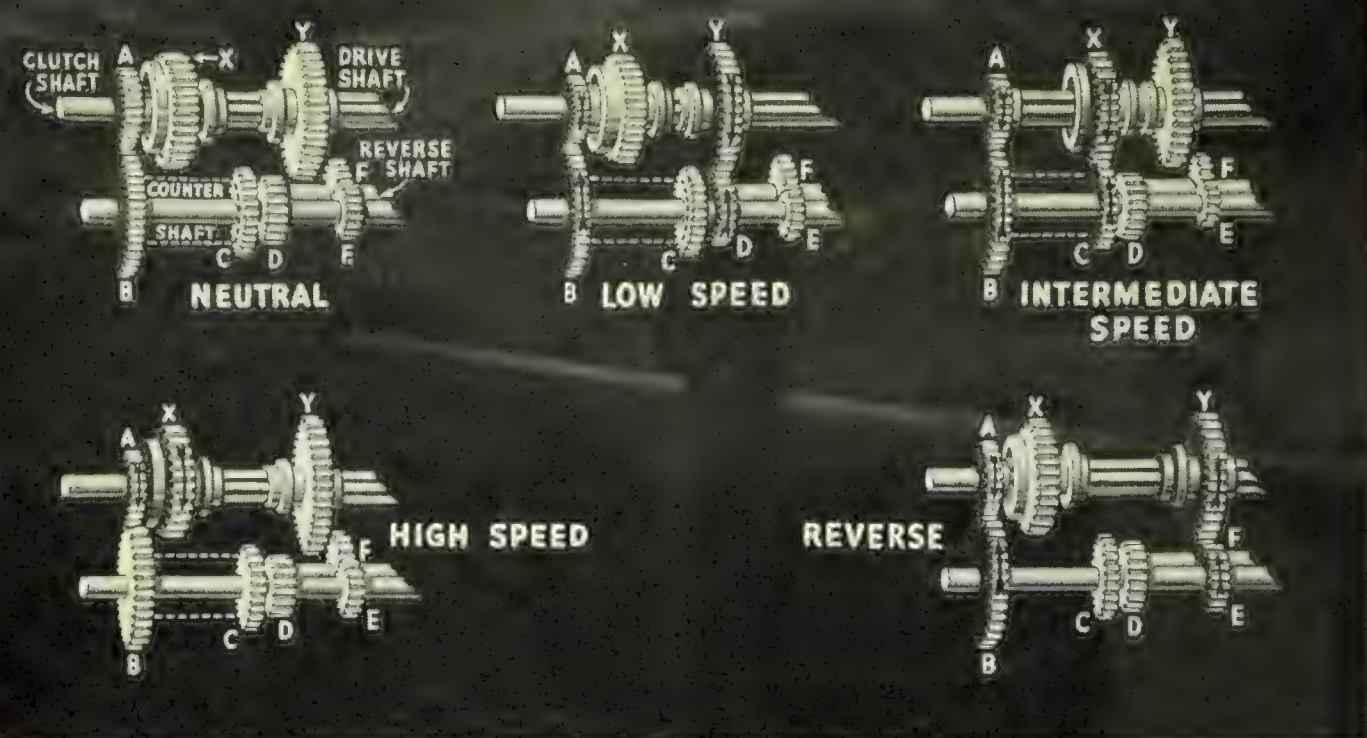

FIG. 491. See if you can explain these drawings of the gear shifts. The letters have been put on the gears to help you explain what happens.
If you will examine Figure 491, you will see the position of the gears when the car is in neutral, first speed (low), second speed (intermediate), high speed, and reverse. In neutral, gear A on the shaft connected with the clutch is *meshed* with a gear (B) on the countershaft. None of the gears on the countershaft, however, are meshed with gears on the *drive shaft*; thus, no power is transmitted to the rear wheels. The gears on the drive shaft are sliding gears and can be moved back and forth on the shaft by the *gear-shift lever*. When you shift into “low,” you push down on the clutch pedal to disconnect the engine from the gears. Then with the gear-shift lever you slide gear Y so that it is meshed with gear D on the countershaft. The drive is therefore as follows: Gear A drives gear B, which turns the countershaft upon which is gear D. Gear D drives gear Y, which turns the drive shaft. If you examine the other parts of the figure, you will see what happens in intermediate, or second, speed. When the car is shifted into “high,” gear X is pushed forward against gear A and locked with it. The clutch shaft and the drive shaft then rotate in the same direction and at the same speed as the crankshaft of the engine.